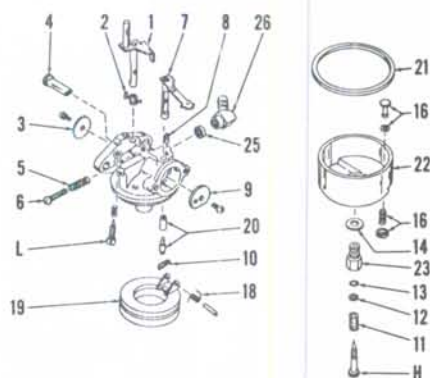

Fig. T1-6 — Exploded view of Tecumseh float type carburetor. Late type with fuel pump (4) is shown; however, other types are similar.
Tecumseh Float Carburetor: Refer to Fig. T1-6. Clockwise rotation of idle mixture needle (L) and high speed needle (H) leans the fuel mixture. Initial setting is approximately 1 turn open for both needles. Start and run motor until it reaches operating temperature, then adjust to provide smoothest operation in gear. The high speed mixture needle (H) should be adjusted first. Idle mixture needle (L) should be set rich enough to provide smooth acceleration from idle to high speed. Use caution when set-
On early models (Fig. T1-7), the fuel inlet needle (20-Fig. T1-6) seats against a Viton rubber seat which is pressed into the carburetor body. The seat can be removed on these early models by using a short hooked wire. The seat must be removed before cleaning. When installing seat, the grooved side should be installed first.
On all models, install throttle plate (3-Fig. T1-6) with stamped lines facing out (toward engine) and at 12 and 3 o'clock positions. Install choke plate (9) with flat side toward bottom of carburetor. Float setting should be 7/32 inch, measured with body and float assembly inverted, between free end of float and rim of carburetor body. Sealing rings (21) on some carburetors are square while others are round. Make certain that correct type seal ring (21) is installed. When installing fuel bowl (22), the flat under side should be located below the fuel inlet fitting (26).